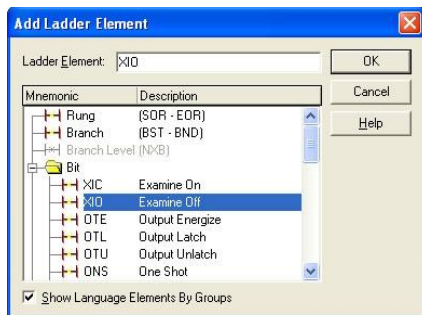

Figure 54: Adding an XIO Element
- c) Select the "XIO" element in the Bit folder. Refer to Figure 54.